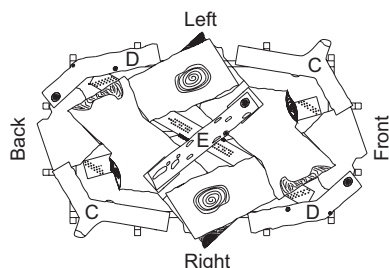

Figure 50 - Installing Twigs "C, D, E" (Top View)
8. Take twigs "C" (shaped like a "Y") and place them as shown in Figure 50.
9. Take twigs "D" (bent twig) and place them as shown in Figure 50.
10. Place twig "E" across top of logs "B" as shown in Figure 50.
11. When finished installing logs, close glass door. Make certain safety door switch is fully pressed by door frame before securing four (4) spring loaded latches.